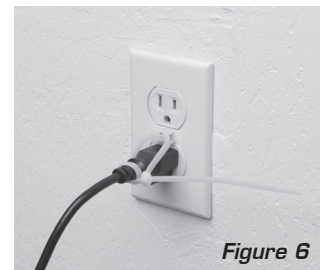

Figure 6
5. Feed the end of the zip tie through the retainer and pull tightly to secure. **Note:** Some adjustment of the retainer may be needed in order to properly align it as shown in Figure 6.